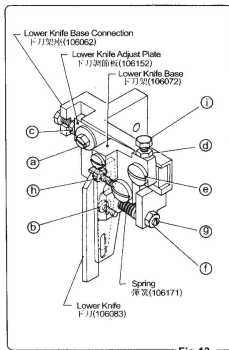

Fig.13
(5) Cutter
a) To occlude the upper and lower blades, manually move the upper blade. To do so, put off air source. Here, prior to lowering the upper blade, loosen the screw ⑭ and the nut ⑮ as shown in (Fig. 13).
b) 在a)項調整後，將螺絲釘⑭輕輕頂住螺母⑯，再將螺母⑯旋緊。
c) After the adjustment by steps a) and b), cut a crepe tape or thread for test. If the front end of the cutter cuts but the rear end does not, there is a gap on the rear side. In this case, loosen the nut ② and loosen the screw ③ by 1/8 turn, and cut the thread again for test. If it still does not cut, loosen the screw by another 1/8 turn and repeat this adjustment and test cut until the thread can be cut, and retighten the nut ②. If the rear end of cutter cuts but the front end does not cut, the adjustment by step a) is insufficient. Then, make re-adjustment of the rear side so that the gap between both the blades 0.1 to 0.2mm. Here, adjust the upper and lower blades so that they are in contact with each other on the front side. If the lower blade tends to turn away without cutting, loosen the nut ② and increase the pressure of the spring by turning the screw ④ clockwise (Fig.13)